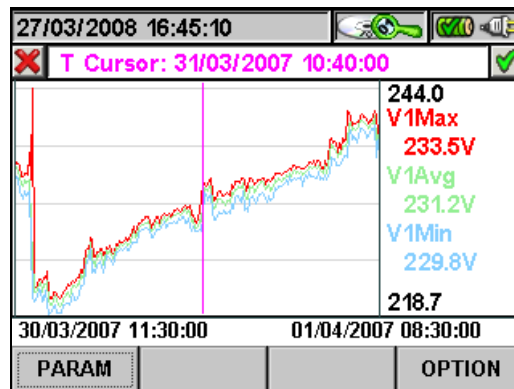

Fig. 100: Recording graph
- The **ENTER** key (or the smart icon on the display) confirms the selection previously made and displays the graph of the selected parameter (Fig. 100)